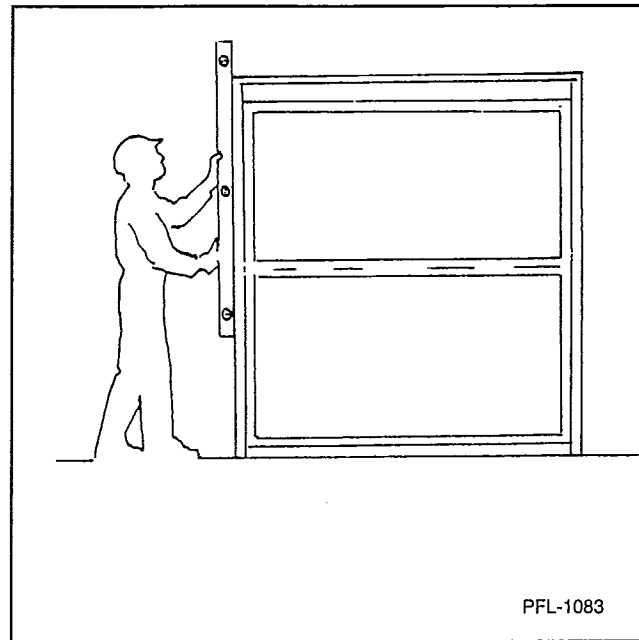

Figure 5
9. Plumb the gate using a plumb bob or a four foot or longer level. See Figure 5.